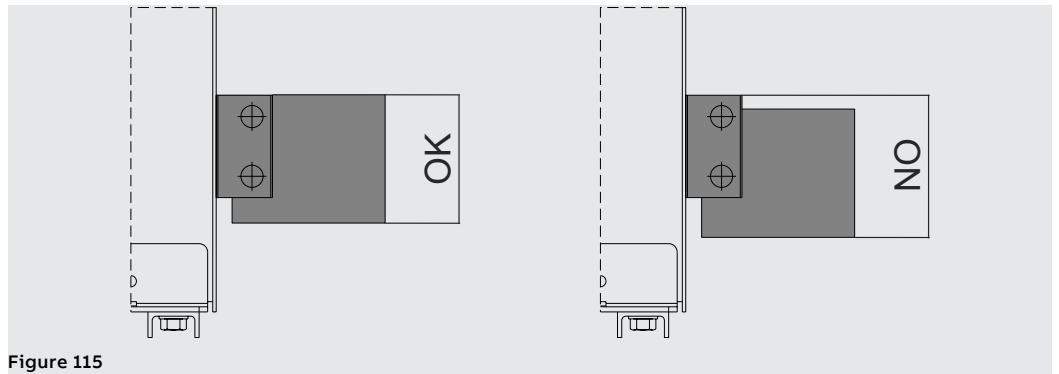

Figure 115
- Guarantee the maximum use of the surface of the terminal. See the example Figure 115.